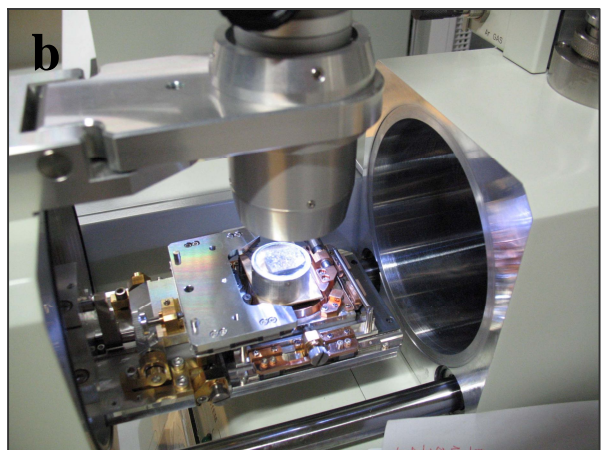
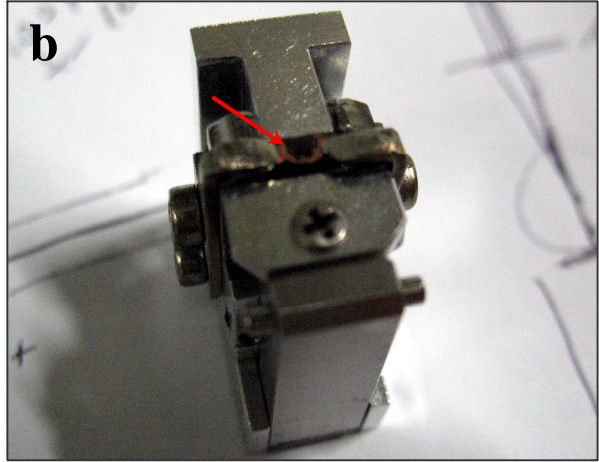

Figure 3. Cross Section Polisher at GUF.
Figure 4. a. Argon Ion Slicer at GUF. b. Sample for TEM analysis, prepared by the Argon Ion Slicer.
- 4) **Introduction to special techniques for sample preparation.** Aleksandar Pačevski has got basic knowledge of two special techniques for sample preparation which are available at GUF. These techniques are based on the usage of two machines, Cross Section Polisher and Argon Ion Slicer, respectively. By the Cross Section Polisher (Fig. 3) the highly smooth sample surface could be achieved and it is mainly used for sample preparation for EBSD analysis, while Argon Ion Slicer (Fig. 4) is used for sample preparation for TEM analysis and by this machine it is possible to get effective sample surface for TEM analysis up to 35000 μm^2 .